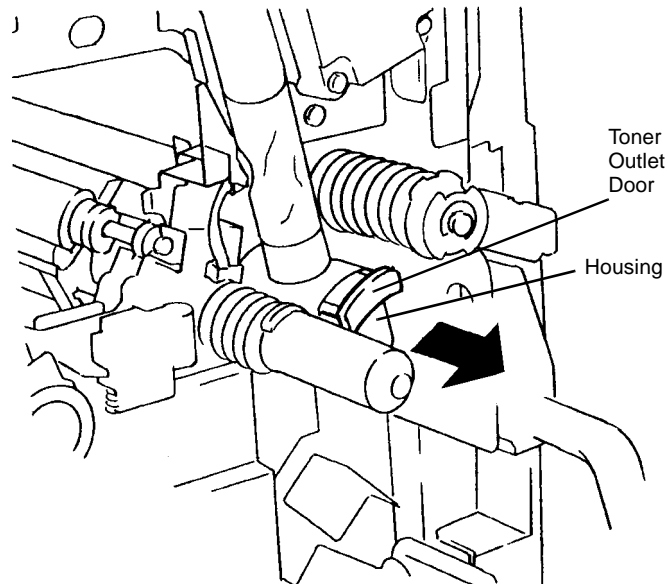

Figure 1 Closing Toner Outlet
6. Prepare to remove Toner Dispenser (Figure 1).